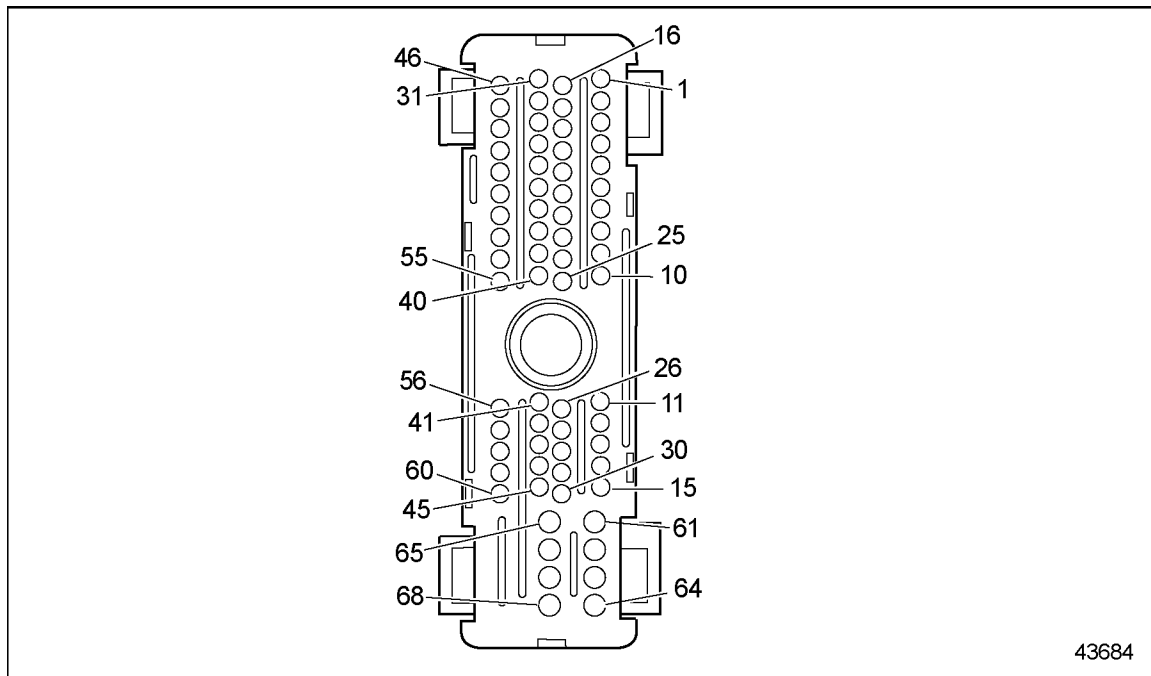

Figure 19-2 ECM/ECU Vehicle Harness Connector
2. Disconnect the vehicle harness connector at the ECM/ECU. For vehicle harness schematic, see Figure 19-2.